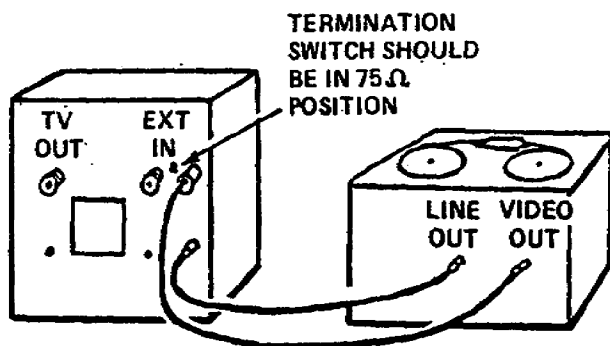
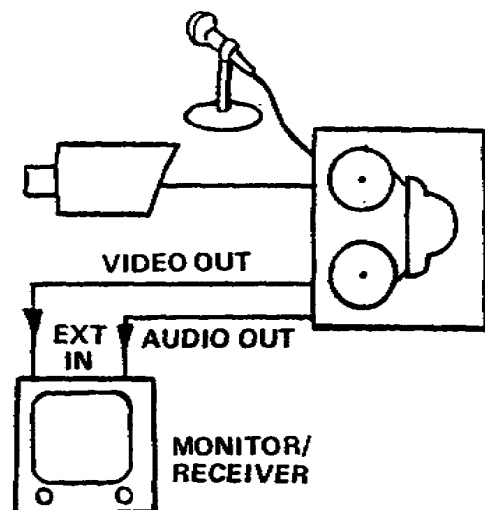

Figure 3-13. Wiring separate audio and video to your monitor
Figure 3-14. Separate audio and video cables from VTR
a. In most of the cassette machines two identical audio channels are provided, one for each of the tracks on the tape. Each has an independent line output socket. The output of the channel is present whenever power is turned on. Many models have an audio monitor jack, the output of which is selected by a switch on the front panel and can be either Channel 1, Channel 2, or a mixture of both (fig 3-13).
b. The video out of the cassette machine is connected to the video in of the monitor (fig 3-13). If there are two video inputs to the monitor, the either can be used. The TV monitor will have an audio input. This is connected by a separate cable to the line out of the machine. Use the output of the channel with the audio recorded on it. If no sound is heard, then try the other line out socket (fig 3-14).